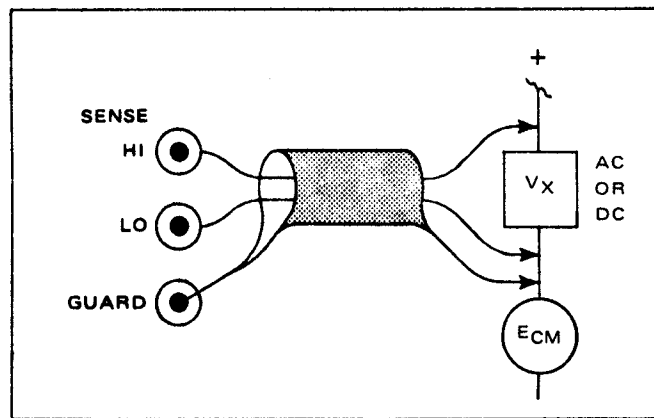

Figure 3.2 - Connections where CM Present
3.5.2 For all voltage measurements, the GUARD lead and LO lead are connected to the measurement point nearest ground potential. Somewhat less shielding is achieved by placing a jumper between LO and GUARD. This arrangement is adequate for measuring all but low voltage (mV) levels and/or in high-noise environments. When making measurements of low voltage levels in noisy environments or where common mode signals are present it is recommended that the two-wire-shielded type of input cable be used. This input configuration is shown in figure 3.2.